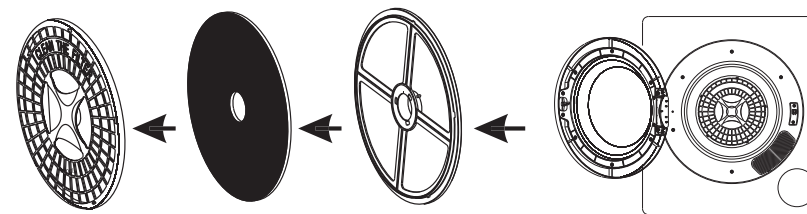

Fig. 14
1. To remove the Lint Filter insert your fingers into the four holes that surround the Exhaust Vent Shroud and pull out the Filter Assembly. The Filter Assembly consists of three parts: the Exhaust Vent Shroud, the Lint Filter and the Exhaust Filter, as illustrated below (Fig. 14).